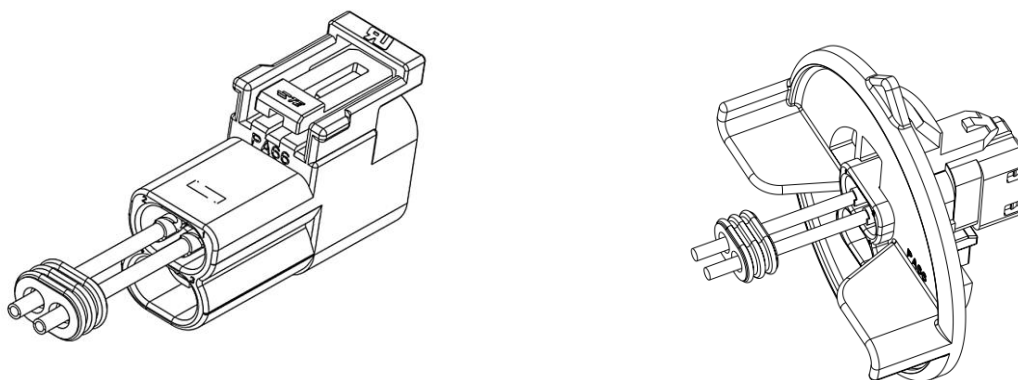

Figure 11
2. Leave the seal over the wire until the terminal is correctly oriented (squared) in the circuit and latched where it belongs. See Figure 11.